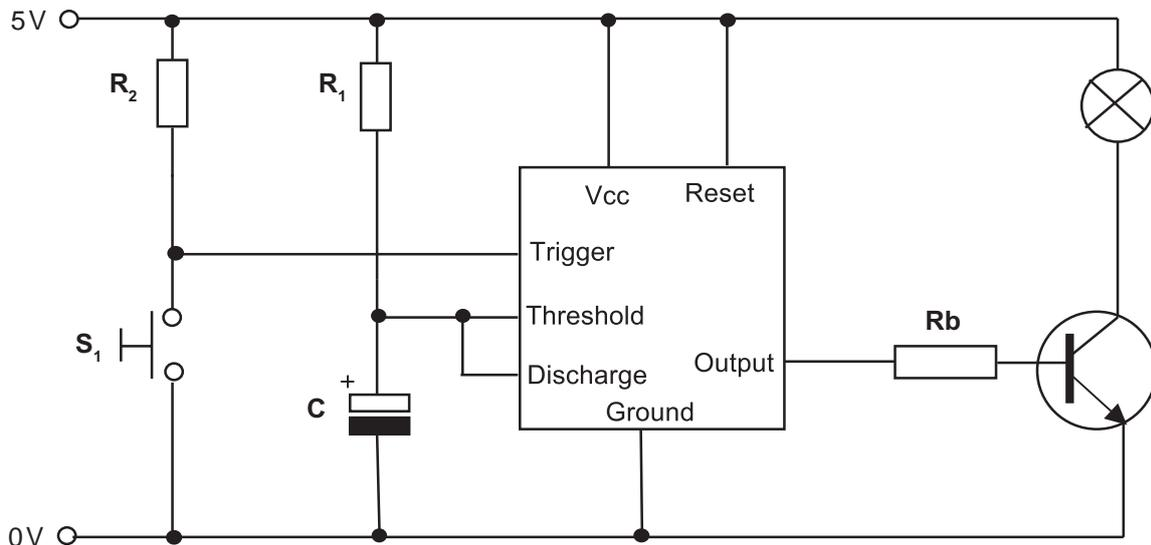

Fig. 10(c)
- (i) The bulb in **Fig. 10(c)** is to be switched on for a period of 20 seconds. If **C** has a value of $100\mu\text{F}$, calculate the value of **R₁** given that $T = 1.1 \times C \times R_1$ where **T** is the time for which the output for the 555 timer remains high. [2]
- (ii) Draw a graph with labelled axes showing output voltage of the 555 timer against time for the circuit in **Fig. 10(c)** when **S₁** is momentarily pressed and released. Also add a label to indicate the time period **T**. [3]
- (iii) The bulb in **Fig. 10(c)** requires 100 mA to operate. If the transistor has a current gain (h_{fe}) of 80 and a V_{be} of 0.7 V, calculate the value of **R_b**. [3]